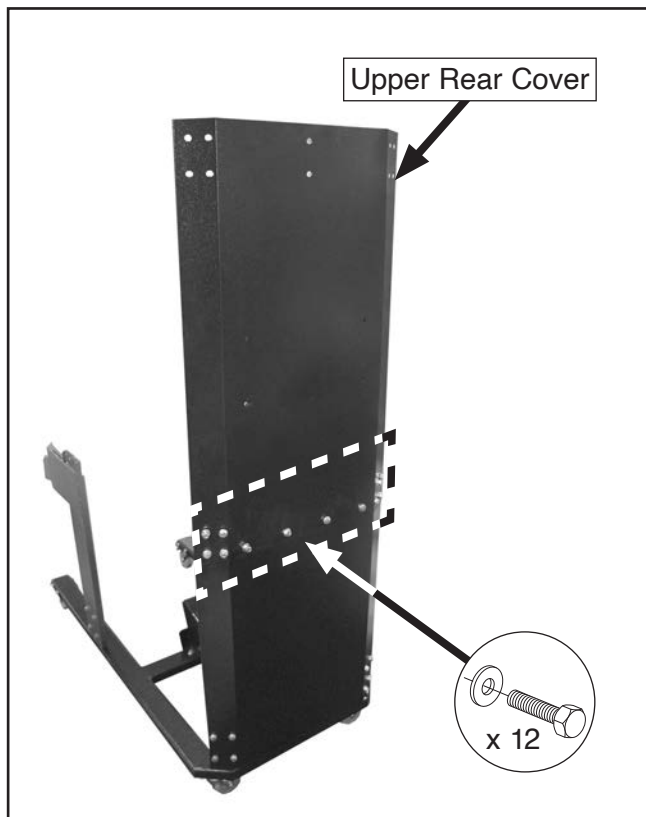

Figure 21. Upper rear cover attached to lower rear cover.
6. Attach upper rear cover to brackets on lower rear cover with (12) $\frac{5}{16}$ "-18 x $\frac{3}{4}$ " hex bolts and (12) $\frac{5}{16}$ " flat washers (see **Figure 21**).